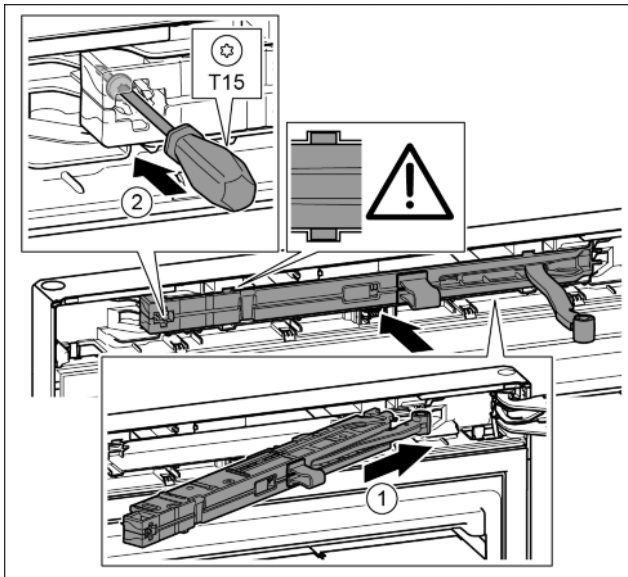

Fig. 40
- ▶ Slide the soft-stop mechanism on the bearing bracket at an angle into the gap as far as the limit stop. Fig. 40 (1)
- ▶ Tighten the screw with the T15 screwdriver. Fig. 40 (2)